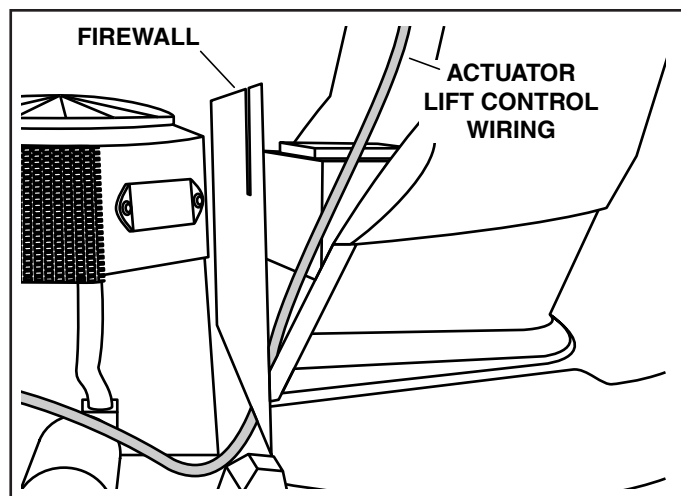

Figure 19.
3. See figure 19. Route the wiring of the actuator lift control as shown, going underneath the firewall.